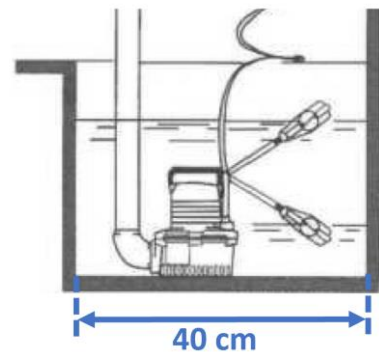

Fig. 2
- **IMPORTANT:** Before submerging the pump in water, upwrap the power cable (4) and ensure the plug is clear of any damp locations.
- Allow a minimum space diameter of 40 cm for operation (see Fig. 2), so that the movement of float switch is not obstructed.
- For deep water, use a rope (not included) and secure it to the carrying handle (1), then set the pump in the desired position within the work area.